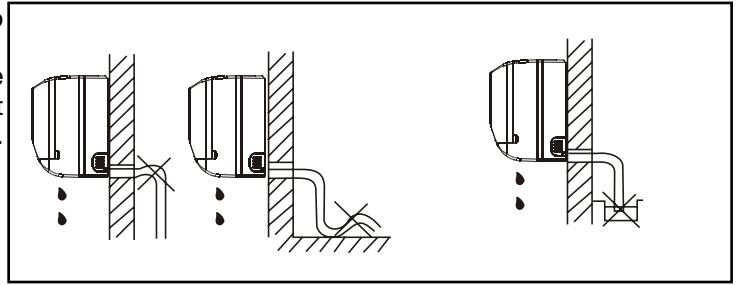

fig.3
2. Do not bend or twist the condensate discharge tube in order to avoid potential obstructions; do not submerge the end of the pipe directly in water (fig.3).